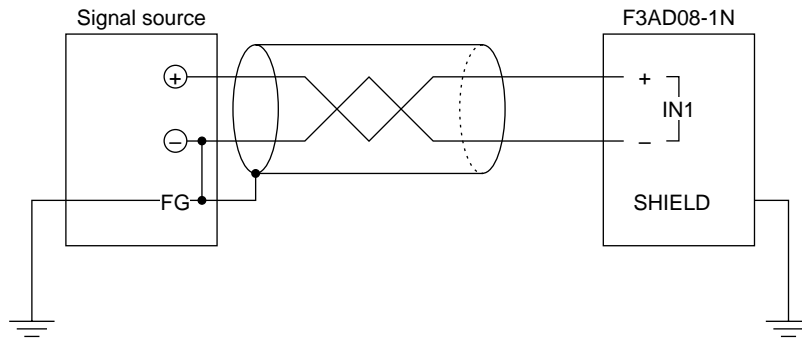

Figure 2.13 Wiring Diagram Involving Grounded Negative Signal Line
- (d) When the negative line of the signal source has been grounded, connect the shielding wire of the twisted pair to the SHIELD or FG terminal at the signal source as Figure 2.13 shows.